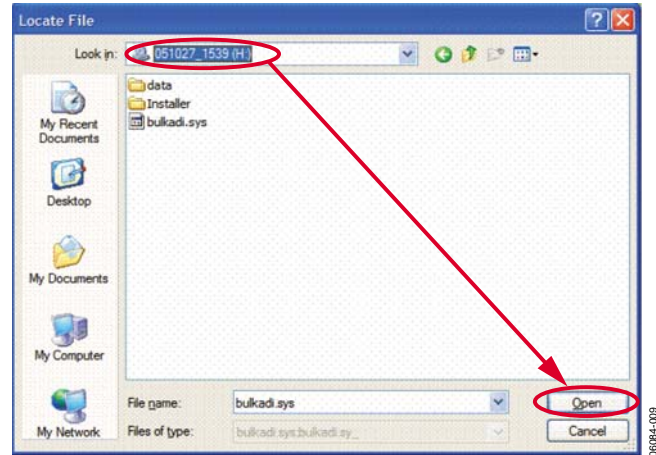

Figure 9. Find the *bulkadi.sys* File on the EVAL-AD7760/AD7762/AD7763EB Software CD
6. Locate the CD drive of the computer, select the file *bulkadi.sys* and then click **Open**, as shown in Figure 9.